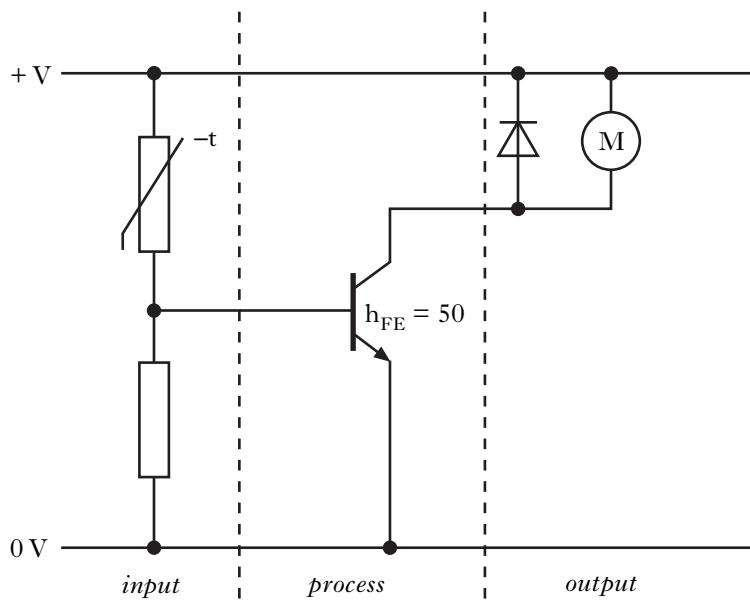

Figure Q2
2. Figure Q2 shows a circuit for controlling a motor connected to a fan.